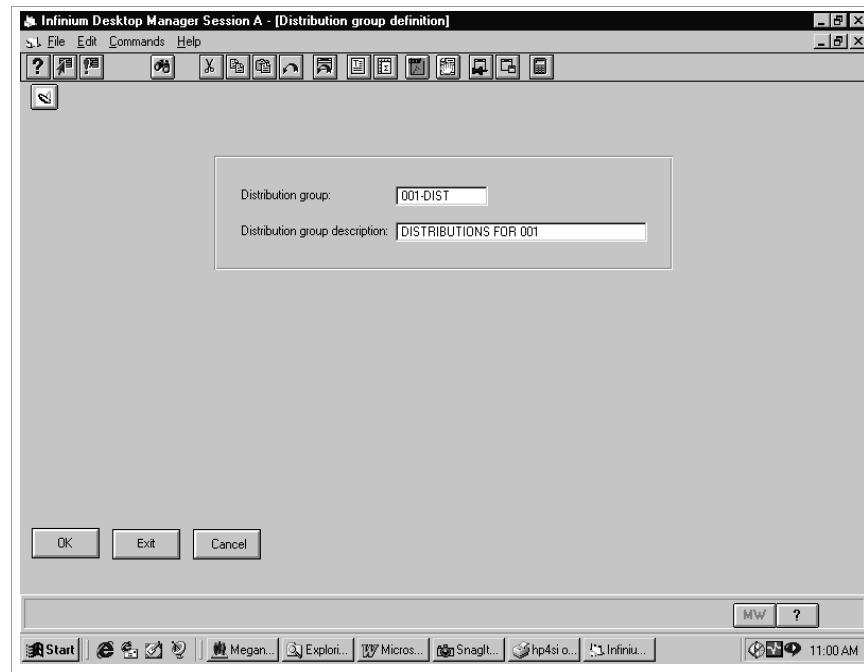

Figure 3-21: Distribution group definition creation screen
- 3 You can press F6 to create a distribution group. You can also select an existing distribution group and select **Change** or type **2** and press Enter. The system displays the screen shown in Figure 3-21 if you press F6.